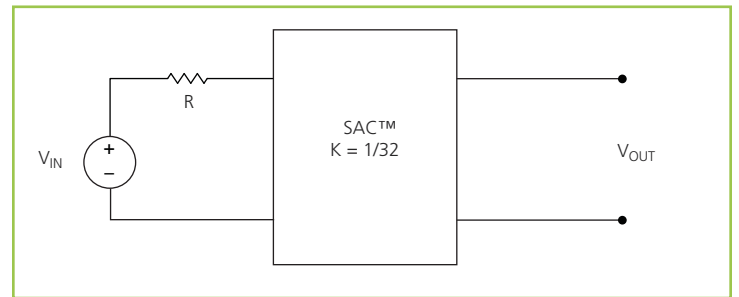

Figure 18 — K = 1/32 Sine Amplitude Converter™ with series input resistor
$R_{OUT} = 0 \Omega$ and $I_Q = 0 A$, Eq. (3) now becomes Eq. (1) and is essentially load independent. A resistor R is now placed in series with V_{IN} as shown in Figure 18.
Assuming that $R = 1 \Omega$, the effective R as seen from the secondary side is $0.98 \text{ m}\Omega$, with $K = 1/32$ as shown in Figure 18.